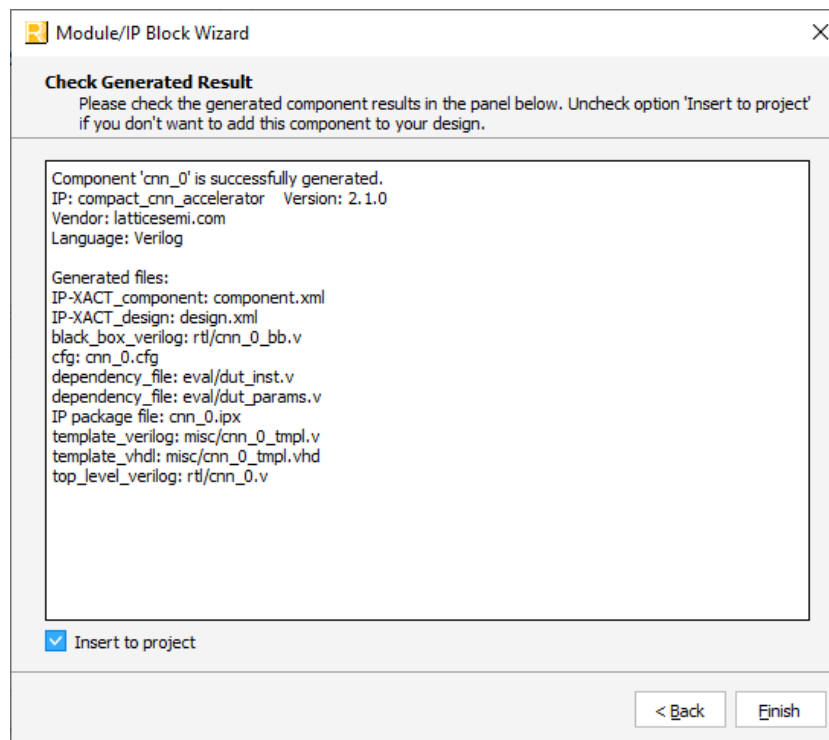

Figure 4.2. Check Generating Result
5. Click the **Generate** button to generate the IP. Confirm the generation result as shown in Figure 4.2. Check the **Insert to project** option to add the generated IP to the project.